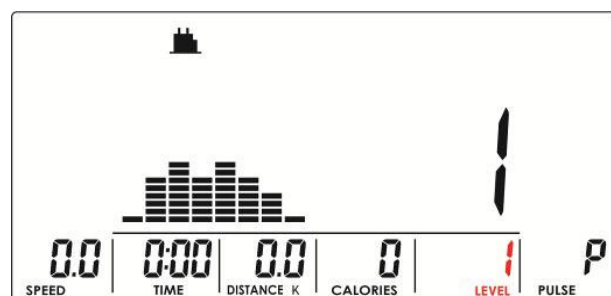

Figure 10
- + You can optionally increase the base resistance of all segments of the selected profile programme. In that case, the resistance for each segment is increased according to the selected resistance level. The default value is 1 (Fig. 10).